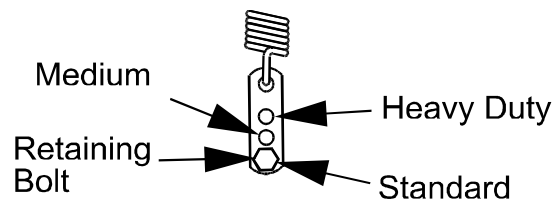

FIGURE 12
- b) For a heavier drive setting, relocate the spring anchor link as shown in Figure 12. The spring anchor links are located under the engine deck on the left and right hand sides.